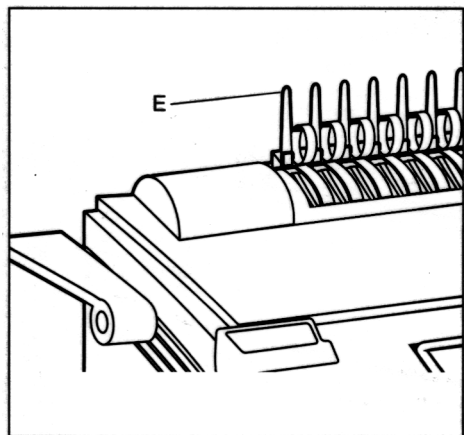

Figure 3
1. Place a Plastic Comb Binding Element behind the Vertical Comb (E) with the open portion of element facing you (see figure 3).